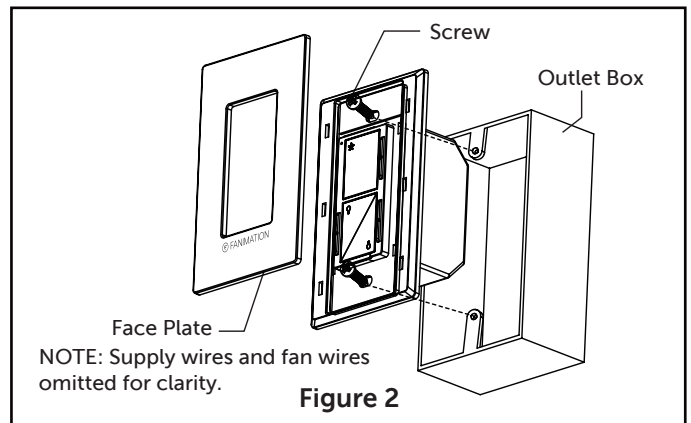

Figure 2
2. Attach wall control unit to outlet box using the two screws provided. Then, attach face plate to the wall control. (Figure 2)